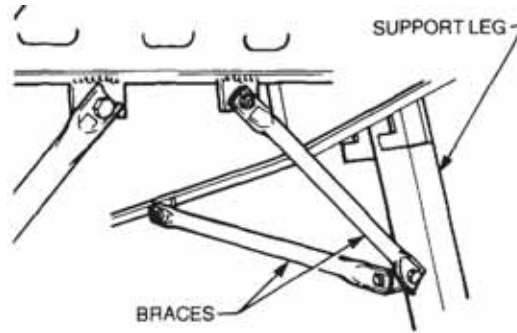

Figure 27 Support Leg and Support Braces
67. **Removal.** Remove the support legs as follows (Figures 27 and 28):
**68. Installation.** Install the support legs as follows (Figures 27 and 28):